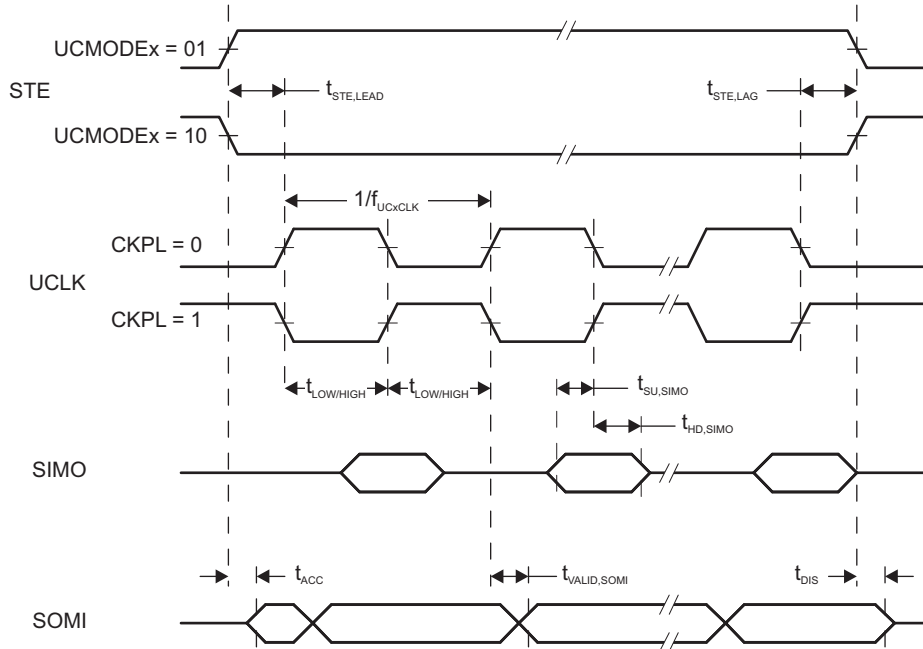

Figure 5-12. SPI Slave Mode, CKPH = 0
- (2) Specifies the time to drive the next valid data to the SOMI output after the output changing UCLK clock edge. See the timing diagrams in Figure 5-12 and Figure 5-13.
- (3) Specifies how long data on the SOMI output is valid after the output changing UCLK clock edge. See the timing diagrams in Figure 5-12 and Figure 5-13.